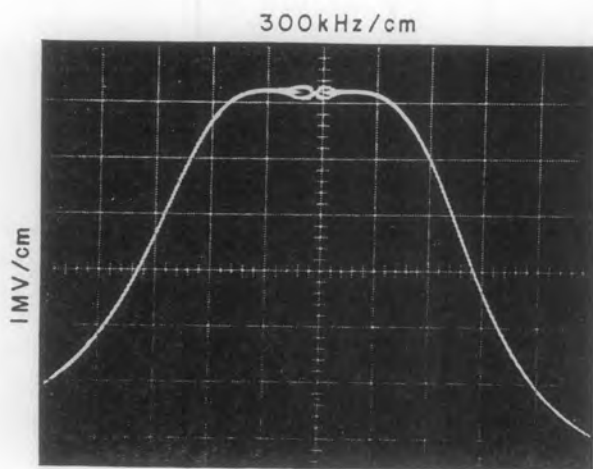

Figure 4-14. Typical VSWR Response, Preselector Network at 20 MHz
The adjustment of A1L3 and A1L4 described in the following step should not be attempted unless considered absolutely necessary (unless, for example, the five section inductuner, L1A-E, is replaced). The shape and positioning of A1L3 and A1L4 is extremely critical. If responses similar to Figures 4-14 and 4-15 cannot be obtained, the tuner should be sent back to the factory for alignment.
- (3) Adjust A1C13 and A1C17 for a symmetrical vswr response centered around the 26 MHz marker. The marker should not fall below the X-axis. Figure 4-14 shows a typical vswr response.